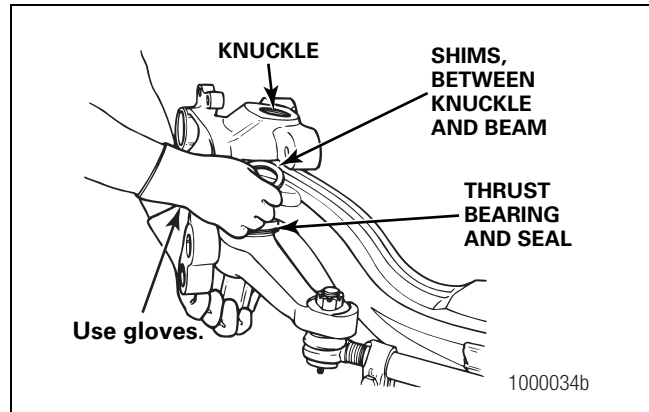

Figure 4.24
9. While wearing gloves, remove the integral thrust bearing and seal, and the shims from the beam and knuckle. Figure 4.24.